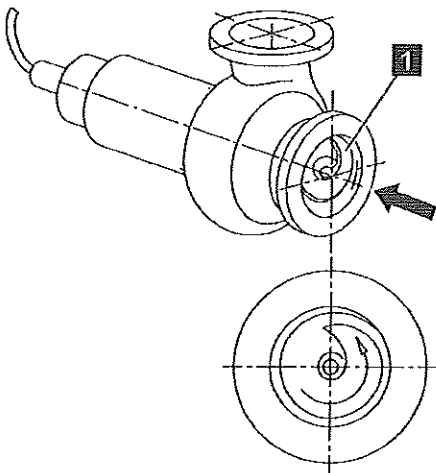
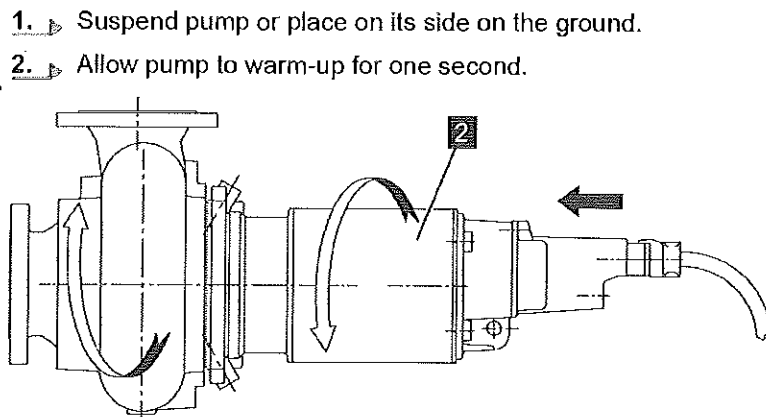

Fig. 31
Fig. 32
3. ➤ Ensure that rotational direction of impeller (1) is counter clockwise as seen from suction end (Fig. 31). The starting jerk must act counter clockwise as seen from the drive end of the motor (2) (Fig. 32).